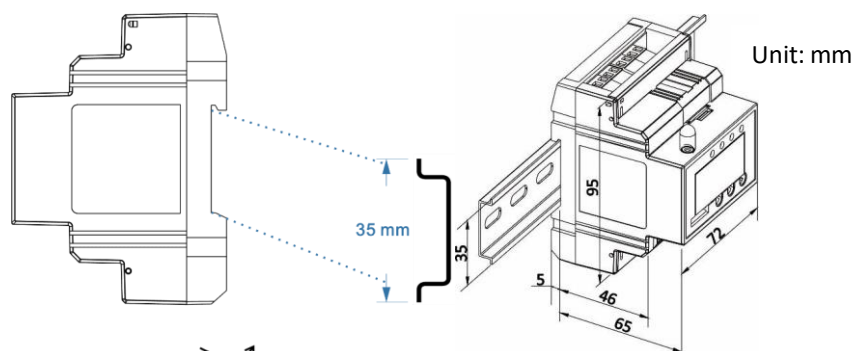

Figure 2-11 DIN-Rail Installation
- Align the top of the mounting channel at the back of the PMC-350-C at an angle against the top of the DIN rail as shown in **Figure 2-11** below